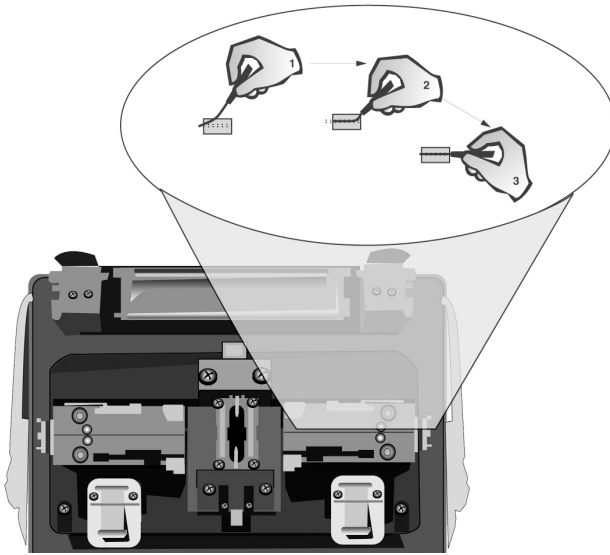

Figure 15. Inserting the Fibers into the V-Grooves
8.6.4 Referring to Figure 15, lower one fiber onto the v-groove so that the cleaved end overhangs the v-groove and protrudes into the arcing area.